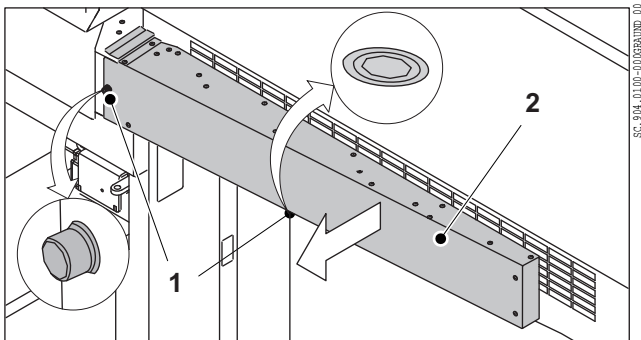
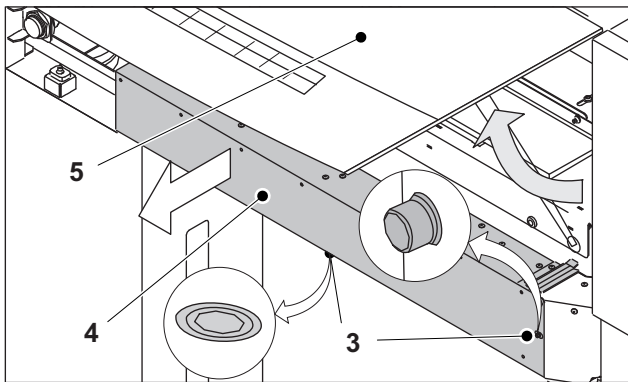

Fig. 66 Suction duct D.S.
Fig. 67 Suction duct O.S.
4. Slacken the two Allen screws (Fig. 66/1 and Fig. 67/3) on the suction duct.
5. Remove the suction duct (Fig. 66/2 and Fig. 67/4).